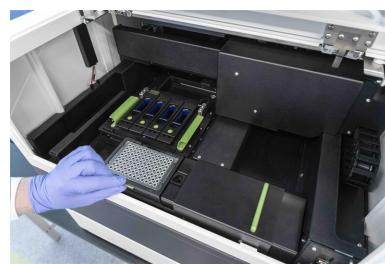

Figure 14: Fasten the clamp on the collection plate
3. Fasten the clamp (see Figure 14).